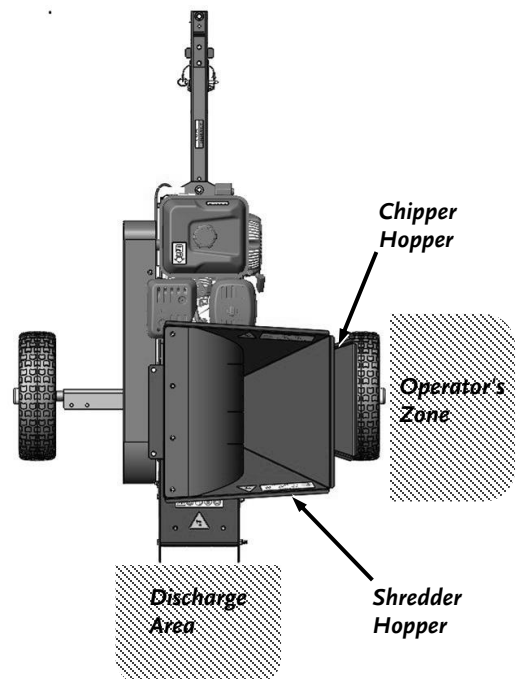

Figure 11
- When viewed from the Chipper Hopper side of the Operator’s Zone (**Figure 11**), the Rotor turns in a clockwise direction.